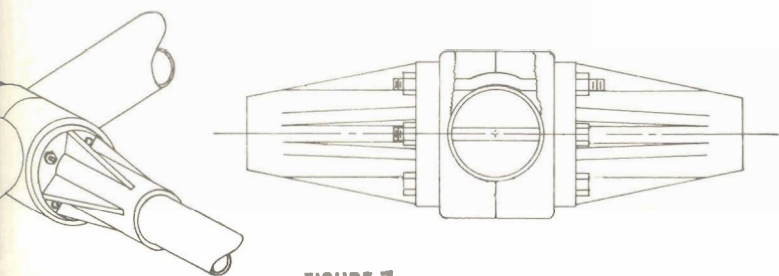

FIGURE 7
- ☐ Work through the two formed 1/4" x 4" stud bolts. They are placed on the top side of the boom, see Figure 7.